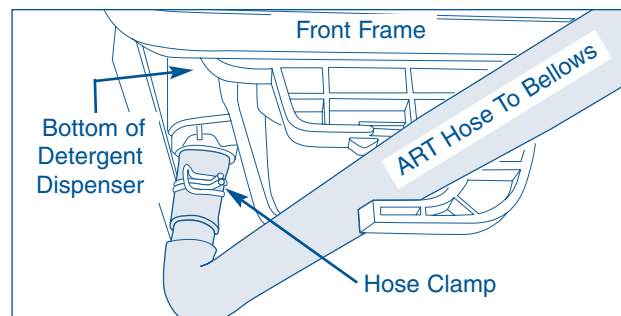

Figure 4-40.
9. Using a pliers, disconnect the advanced rinsing technology hose. (See Figure 4-40)